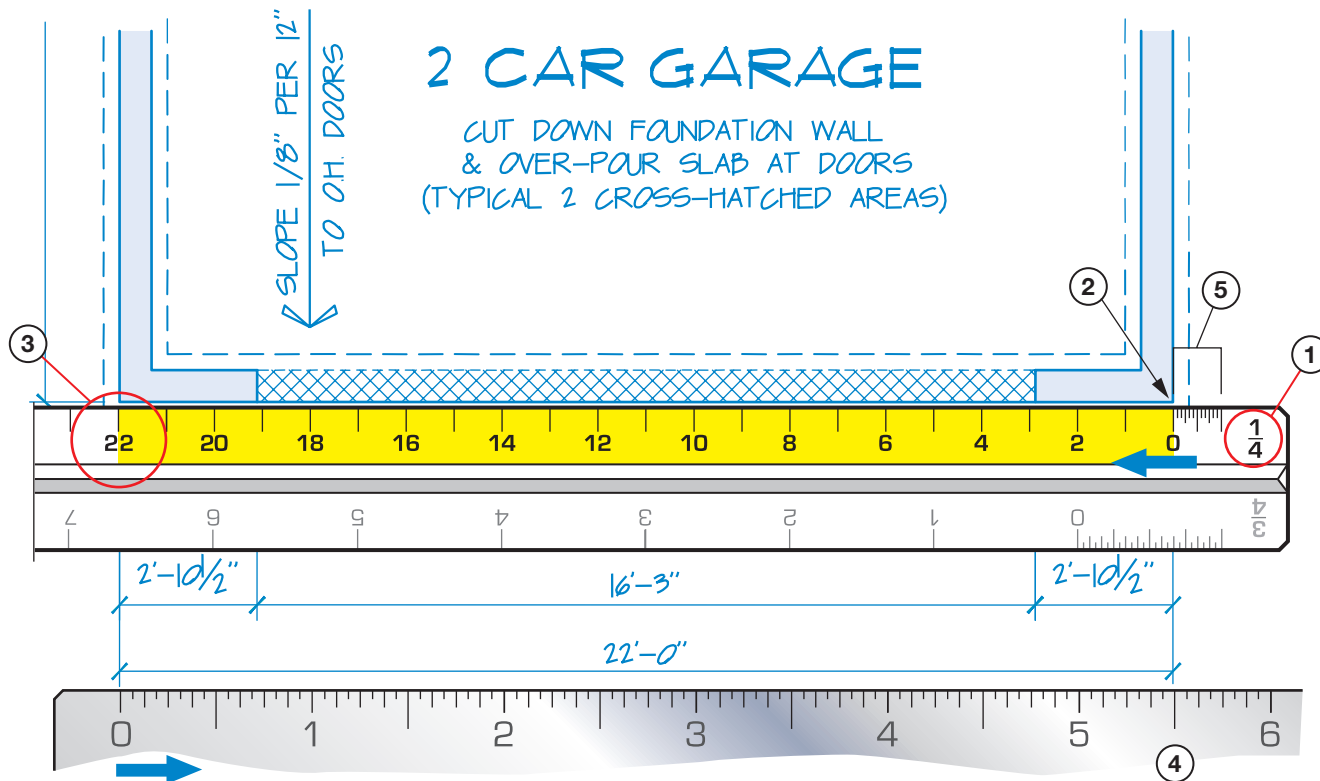

Figure 8.7 Using the scales on an architectural ruler, a carpenter, builder, or designer can draw large-scale areas on plan sheets.
How to Apply the Architect's Scale Learning to use the architect's scale is important to reading and interpreting working drawings. Follow the steps shown below and refer to Figure 8.7 to practice with an architect's scale and develop accuracy and confidence in reading working drawings. The figure in this example is part of plan sheet A-5 the detached garage from the La Chapelle Plan But the technique can be used throughout any scaled set of plans using an architectural ruler.
1. Find the appropriate fraction mark at the end of the scale that corresponds to the scale of plan sheet A-5. In this example shown in Figure 8.7, $1/4'' = 1'$ is used.